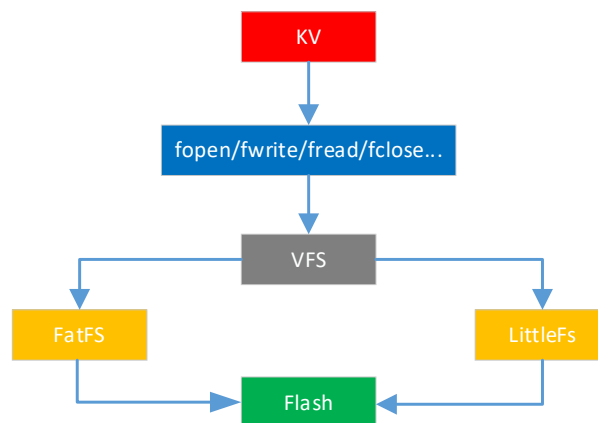

Figure 14-1 Architecture of VFS
This section introduces how to run Virtual File System (VFS) on RTL8721Dx, including FatFS and LittleFS as the underlying implementation. Users can ignore the differences between different file systems by using VFS. The VFS provides common file operation interfaces like fopen, fclose, fwrite, fread, etc. The Key-Value (KV) interfaces are based on these common file operations. The architecture of VFS is illustrated in Figure 14-1.